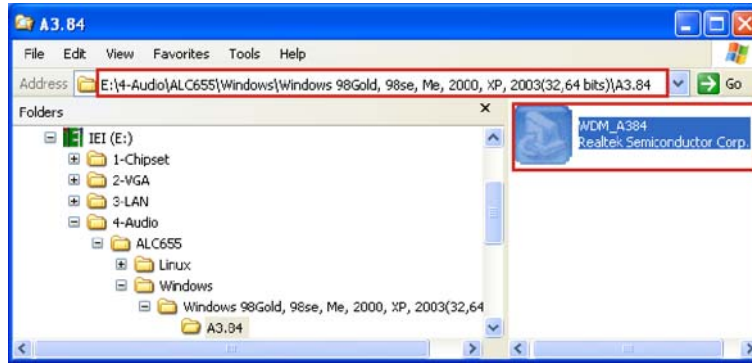

Figure 6-21: AC’97 Audio Driver Options
Step 3: Browse to “E:\4-Audio\ALC665\Windows\Windows 98Gold, 98se, Me, 2000, XP, 2003(32,64 bits)\A3.84” **Figure 6-21**
Step 4: Double-click the installation file in **Figure 6-21**.